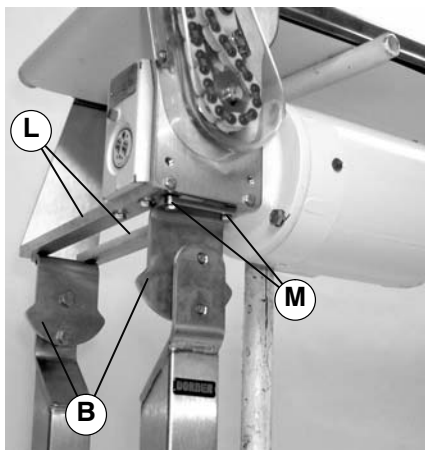

Figure 7
2. Attach two brackets (B of Figure 7) to two heavy load bottom mount gearhead support bars (L) with four M6-1.0x20mm hex head cap screws (M). Tighten screws (M) to 80 in-lb (9 Nm). Tighten screws (K of Figure 6) to 50 ft-lb (72 Nm).